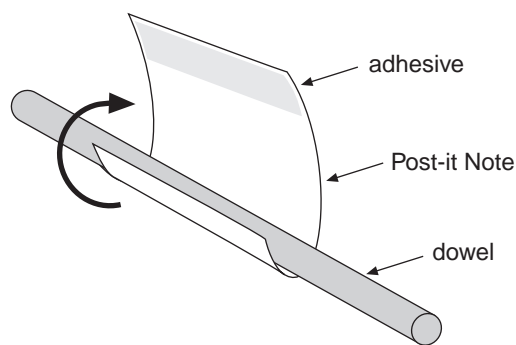

Figure 1: Wrapping the Post-it Note
1. Wrap a small Post-it Note around the larger-diameter dowel so that the sticky part is last and will hold the little tube together. (See Figure 1.)